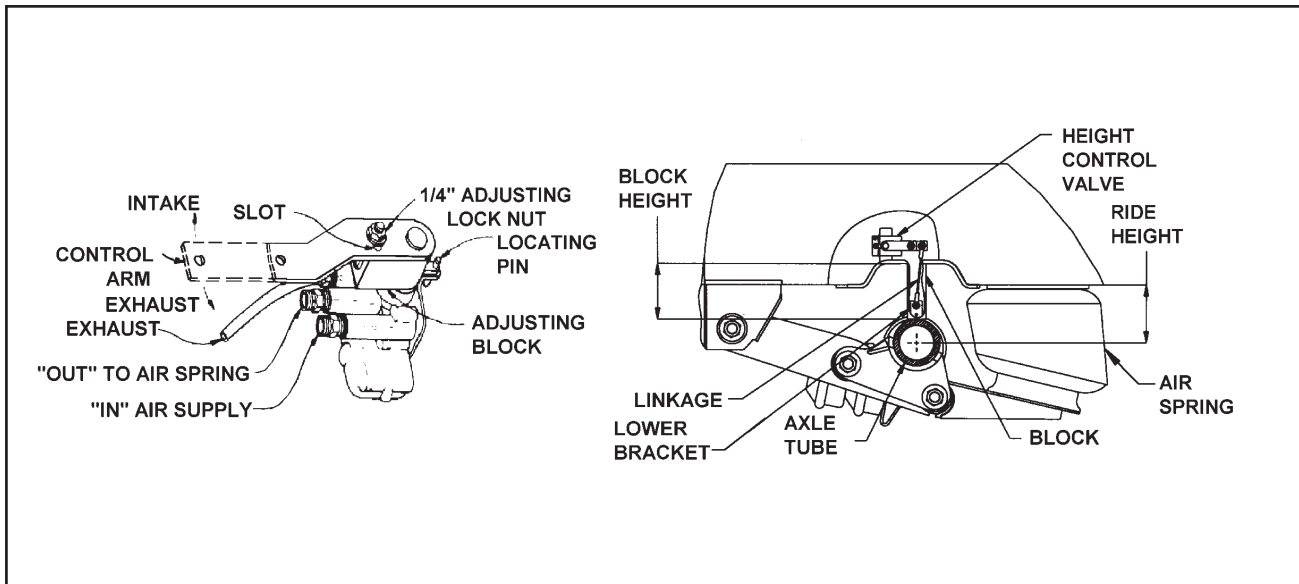

Figure 4-5 Air Ride Height Adjustment
4-6.3 Air Ride Height Adjustment. (See Figure 4-5 for parts identification).
- b. Disconnect linkage at the control arm and raise control arm to the "up" position, raising the trailer until a block can be placed between axle tube and undercarriage frame (See Figure 4-5).
- f. Loosen the 1/4" adjusting lock nut located on the adjusting block, allowing the control arm to move approximately 1 inch. Move the adjusting block until holes align, then insert locating pin. **(See Figure 4-5).**